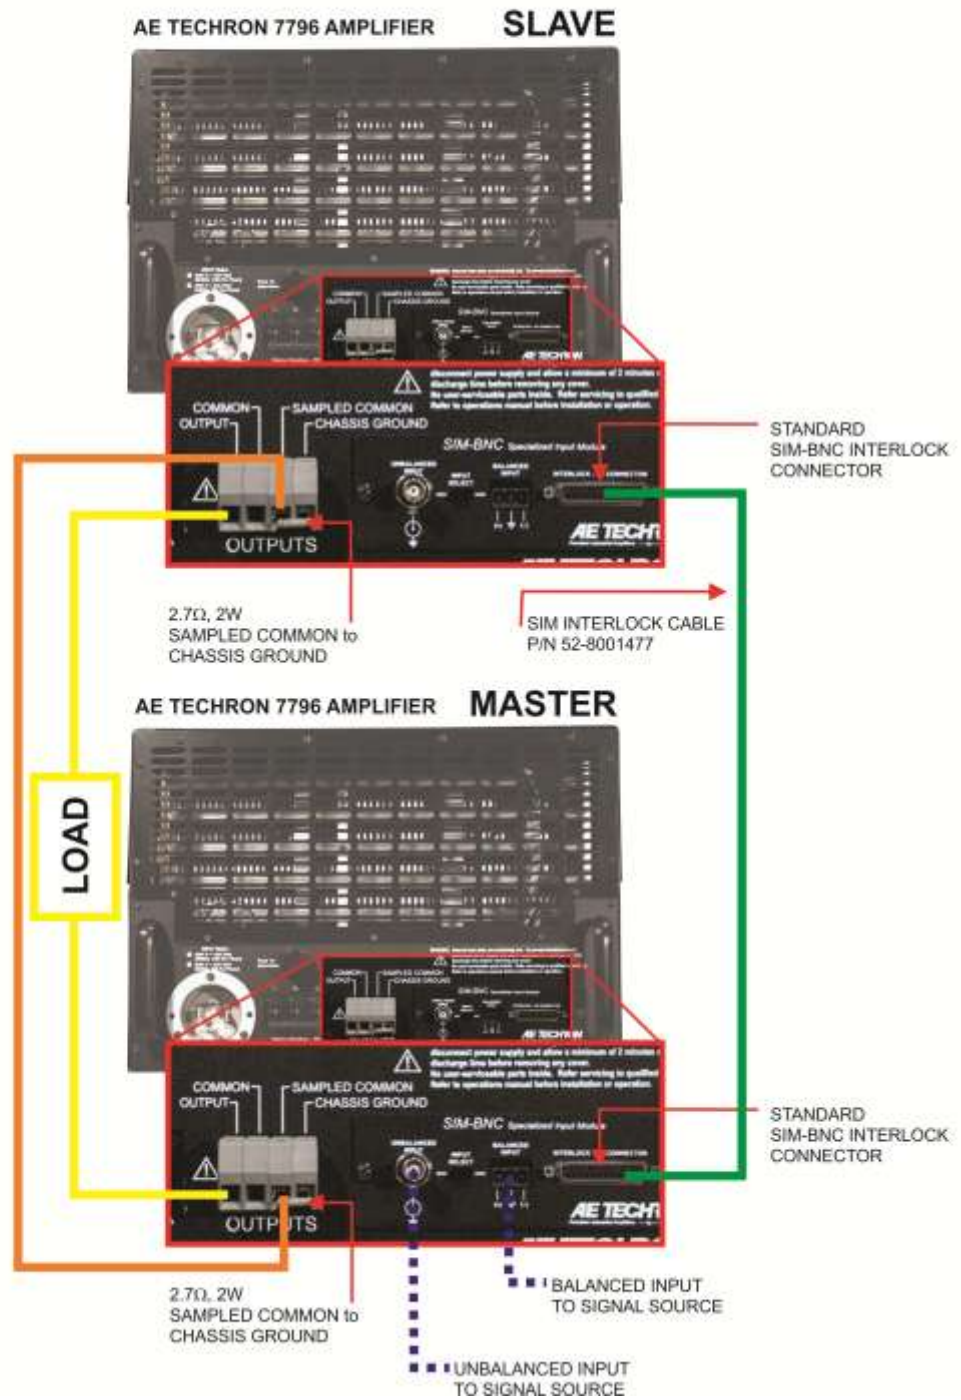
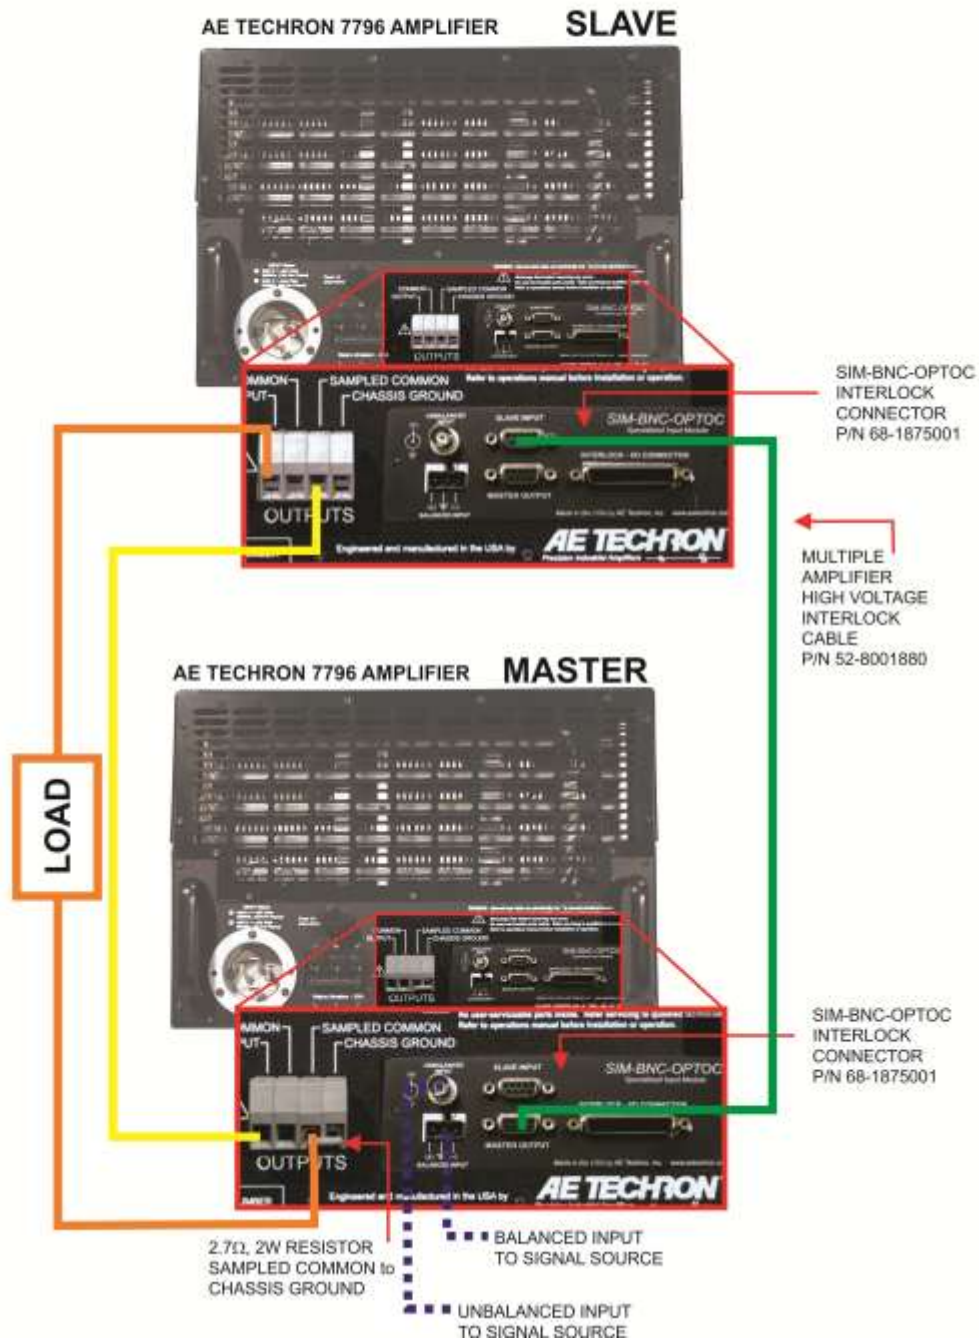

Figure 4.1 – Two Series Differential (Push/Pull) Output Wiring for Floating Load
Figure 4.2 – Two Series Single-Ended (Unbalanced) Output Wiring for Ground-Referenced Load
4. Using the correct interconnect cables and OPTOC module, if required, connect the cables as shown in Figure 4.1 differential output or Figure 4.2 for single-ended output.
4. Using the correct interconnect cables that can be obtained from AE Techron, connect the cables as shown in Figure 4.1 for parallel output.